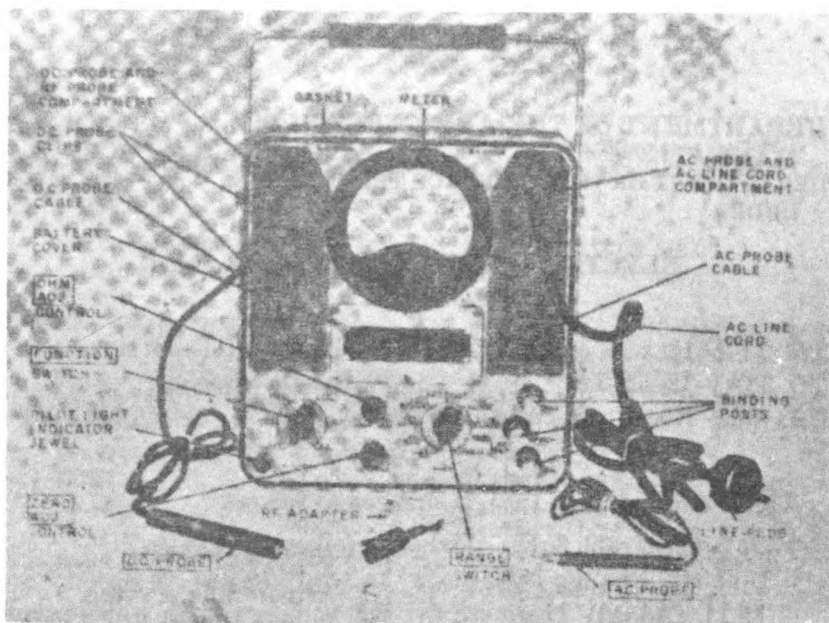

Figure 3. (Superseded) *Electronic Multimeter TS-505/U, front panel.*
- (1) Remove the battery cover (fig. 3) from the front panel of the multimeter.
- (2) Remove the batteries from the battery compartment.
- (3) Clean the battery compartment (par. 30c(3.1)) if necessary and replace the battery cover.
- (1.1) (Added) To measure RF voltages, connect the tip jacket of a test lead to the COMMON binding post (fig. 3). Connect the RF adapter to the end of the DC PROBE. Connect the other end of the RF adapter and the COMMON test lead
a. Reading RF Voltages. Read the RF voltages on the dc voltage scale of the meter (fig. 3). The most accurate readings are obtained when the meter pointer is within the upper one-third portion of the dc voltage scale.
- (1) Perform the starting operations outlined in paragraph 16.
- (2) Turn the FUNCTION switch to the +DC position. (After the multimeter has warmed up, the meter pointer will probably be near, but not at, zero scale reading.)
- (3) Turn the RANGE switch to the 2V-RX1 position.
- (4) Hold the DC PROBE and the COMMON probe tips together, and turn the ZERO ADJ. control until the meter pointer indicates exactly 0 volt.
v. Meter. The meter (M1) is a 0- to 1-milliamperere movement (infinite damping factor) with the appropriate measurement scales (fig. 3) printed on the face.